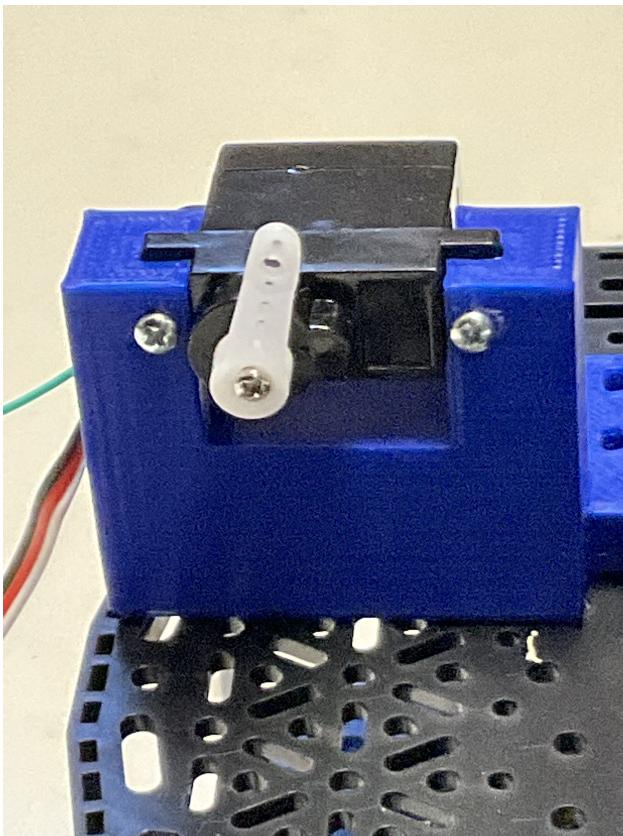

Figure 5: Servo with horn mounted.
3. Using 3/4" screws, mount the servo in the servo bracket. Mount the horn on the servo using the smallest screw in the package of servo parts. You will want to attach the horn so that it ranges from straight up to straight down. Figure 5 shows the horn at the upward extreme. You can use the horn to gently drive the servo to one extreme or the other so you can properly align it.